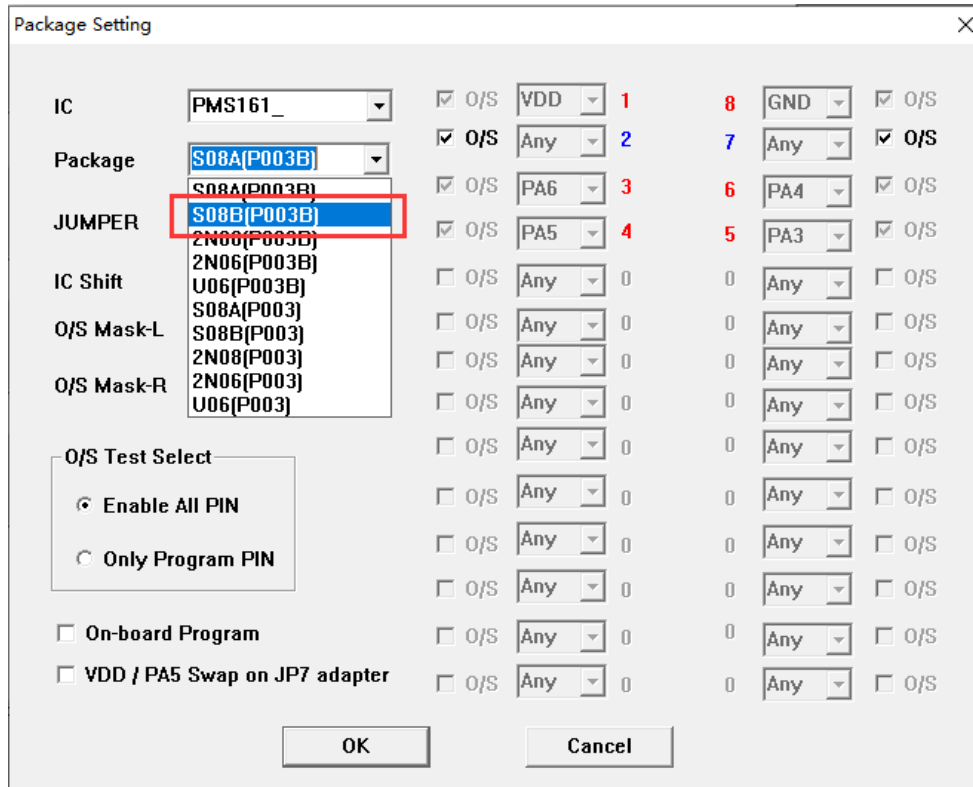

Fig.22: PMS161-S08B package setting when using P003B
1. For 5S-P-003B to write PMS161-S08A, just use jumper2 and it needs downward four spaces on the Textool. Other packages need to convert the file and use jumper7. Taking the writing of PMS161-S08B as an example, other packages only need to change the chip package and jumper7 connection in the “package setting” interface. The package settings are shown in Figure 22: